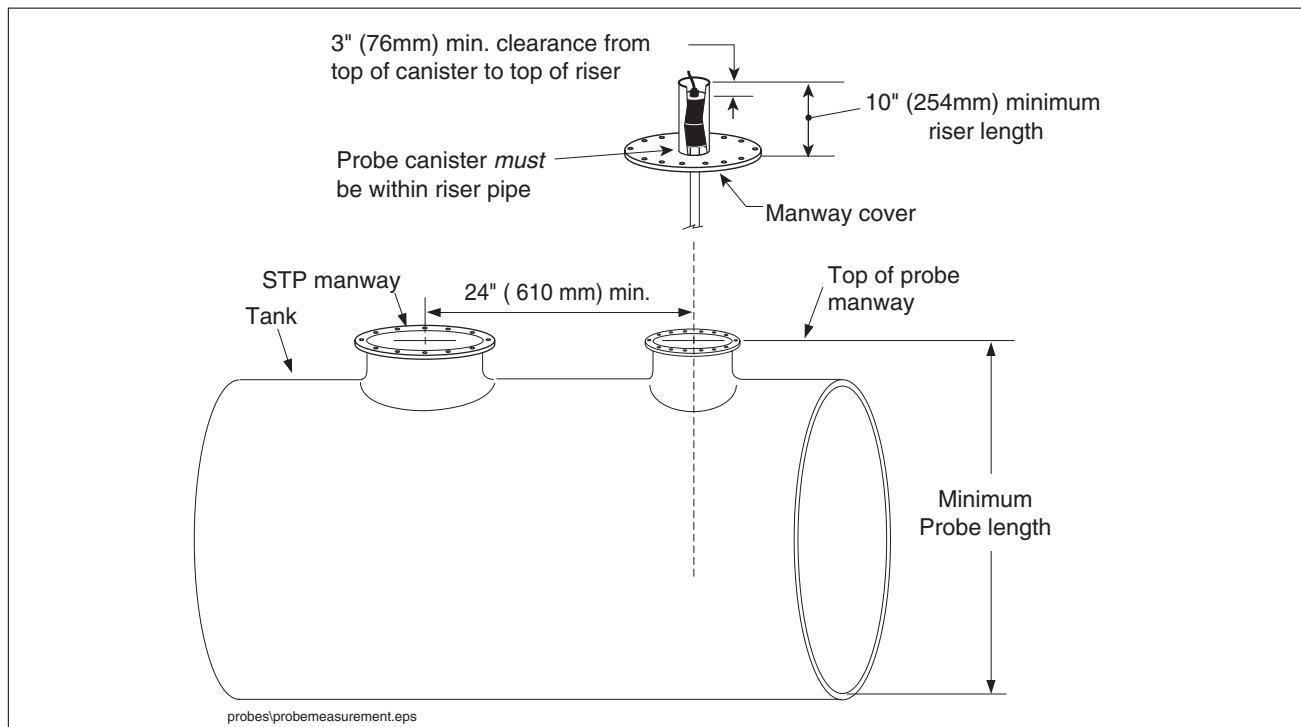

Figure 6. Determining the Minimum Mag Probe Length
1. Measure the distance from the bottom of the tank to the top of the probe manway - this is the minimum probe length (ref. Figure 6).